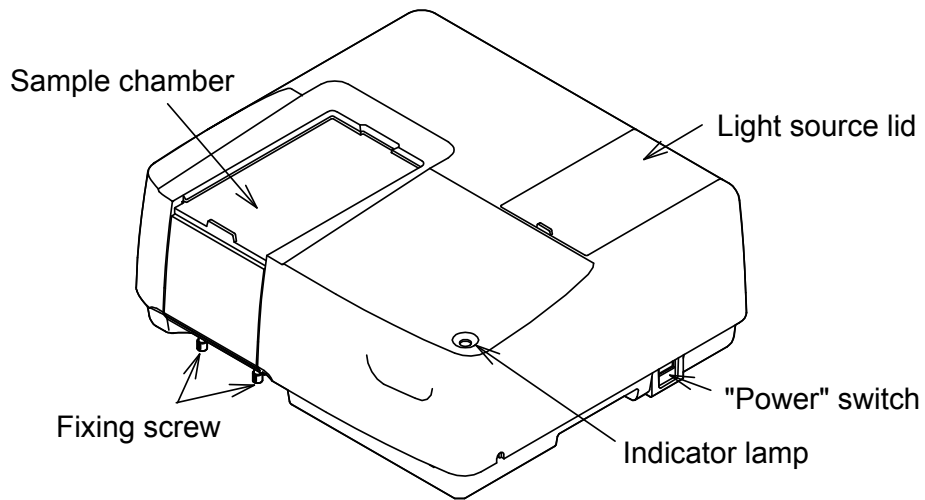
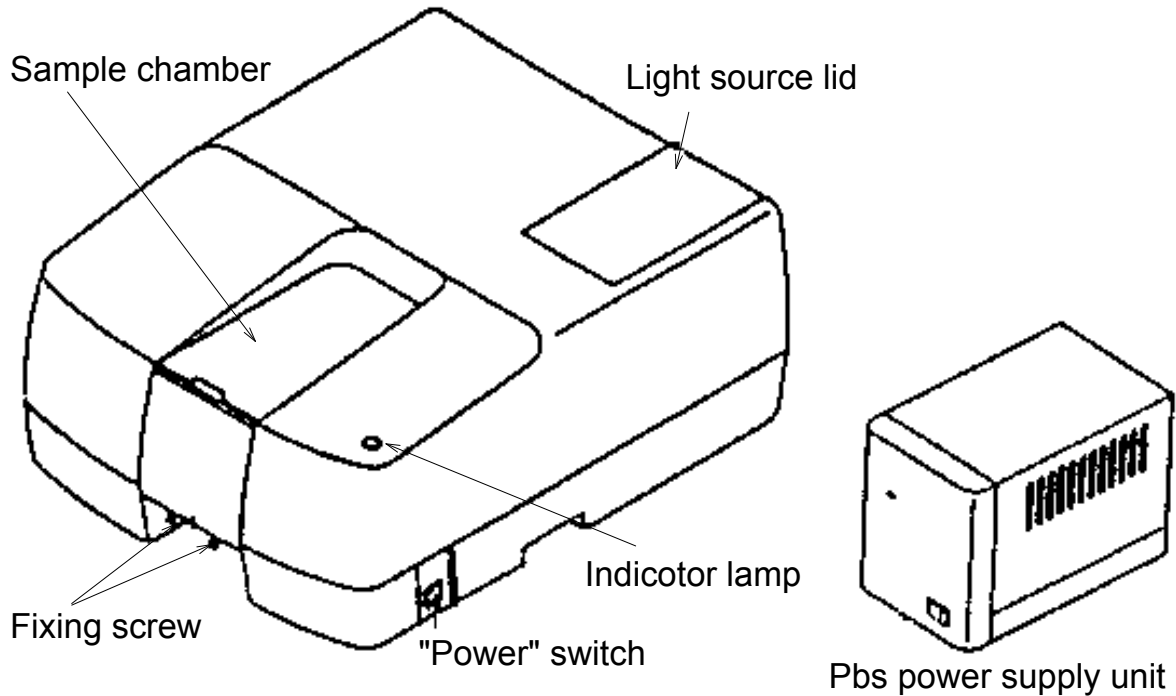

Figure 3.1 Overview
Figure 3.3 V-550/560/570 overview
- (1) Removing the sample chamber
- a) Open the sample chamber lid and loosen the two fixing screws on the front underside of the sample chamber by hand (see Fig. 3.1 or Fig. 3.3).
- (2) Cleaning the sample chamber